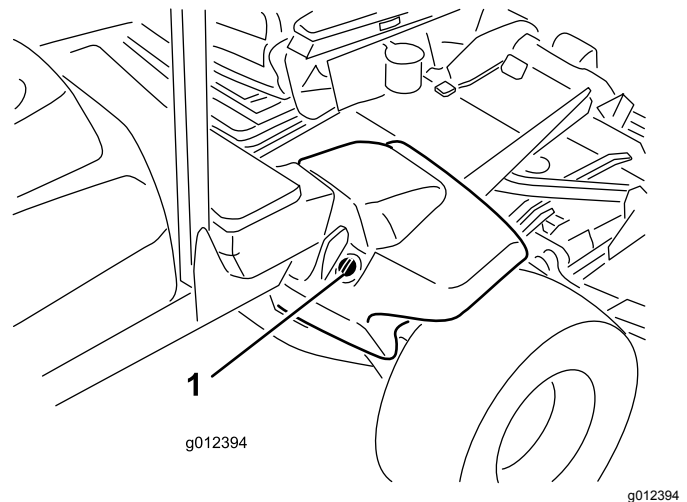

Figure 17
2. Clean the area around the filler neck and cap of the hydraulic tank (Figure 17). Remove the cap from the filler neck.